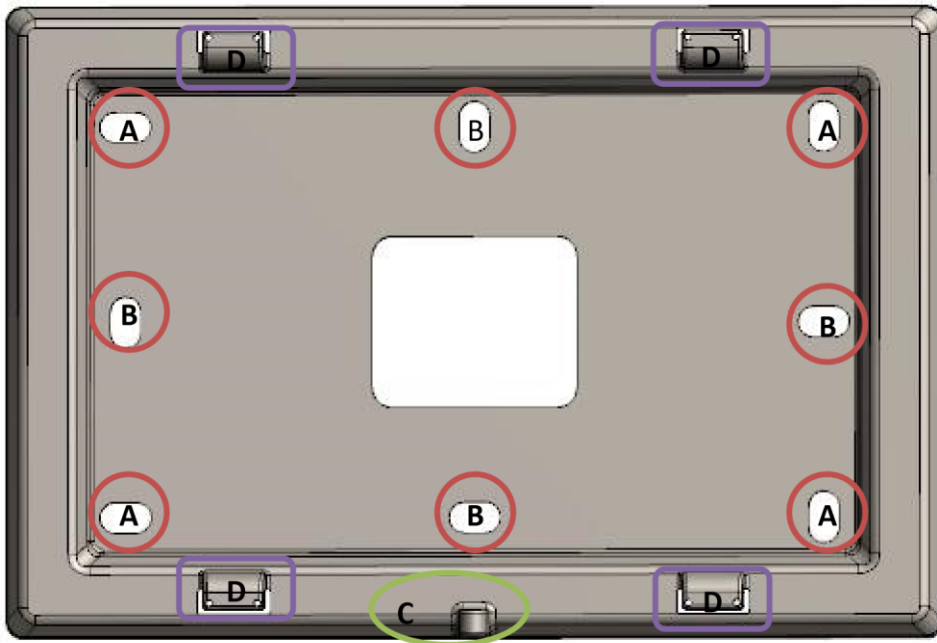
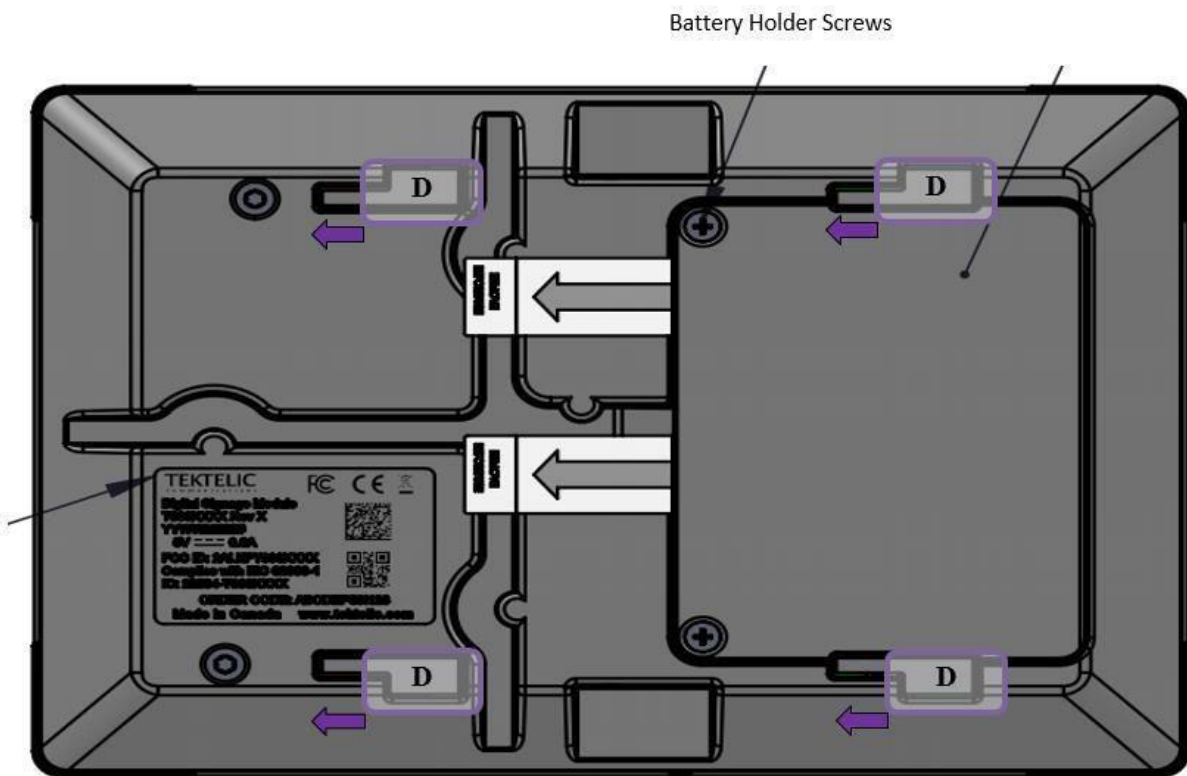

Figure 3-1: Wall mount plate.
Figure 3-2: Tablet back side
- Thread the Ethernet and/or Power cables through the rectangular opening in the wall plate. Ensure that the lock screw feature marked as “C” in Figure 3-1 is facing away from the mounting surface.
- Secure the mount plate on the mounting surface using 4 x M4 screws in locations A or B as shown in the Figure 3-1. o Double sided adhesive tape could be used when mounting on glass
- To install the Tablet, first align the hooks on the mounting plate to the slots on the back of the Tablet (See features marked as “D” in Figure 3-1 and Figure 3-2), then push the Tablet onto the plate. Slide the Tablet to fix the Tablet in place.